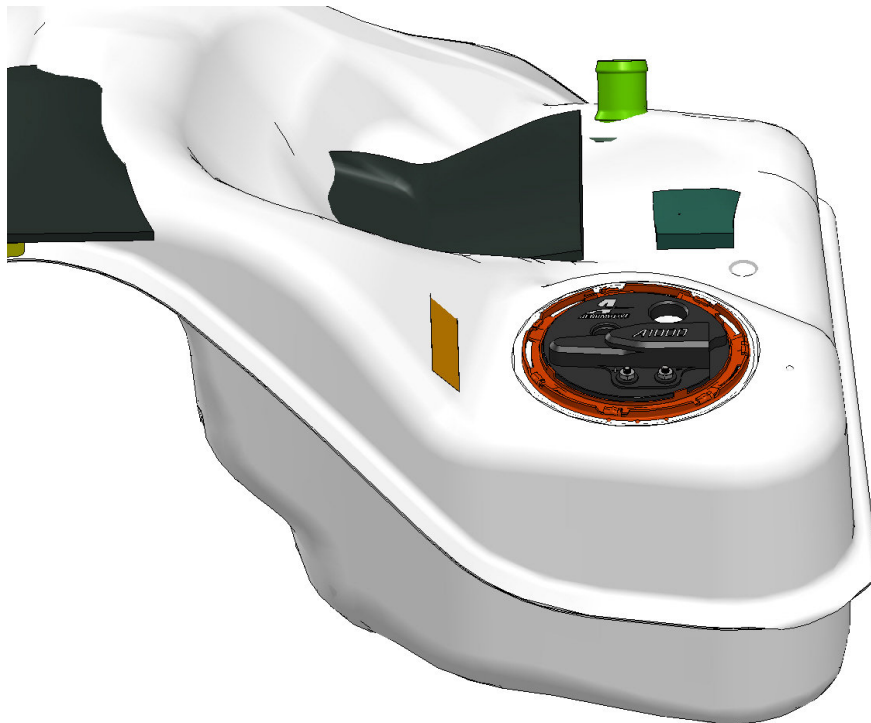

FIGURE 1-11
15. Position the pump as shown below and install the factory lock ring. **FIGURE 1-11**